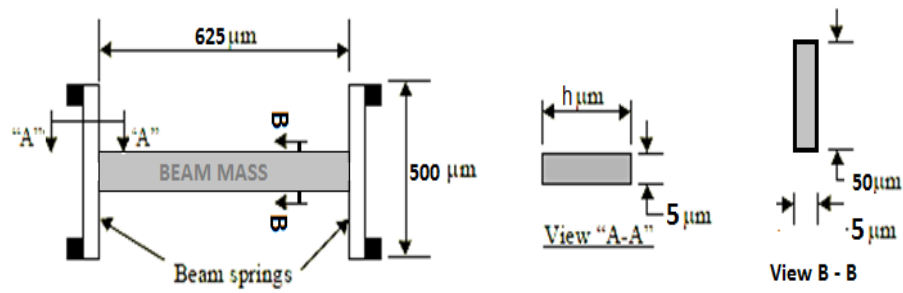

Fig. 6B
- 6B.** Determine the thickness of the beam spring of a force balanced micro accelerometer as shown in Figure 6B, if the maximum allowable deflection of the beam is 16.875 μm . The beam which is at neutral equilibrium position, decelerate from its initial velocity of 50 km/h to a standstill. Young's modulus of beam, $E = 190 \text{ GPa}$ and density $= 2.3 \text{ gm/cm}^3$. **4**